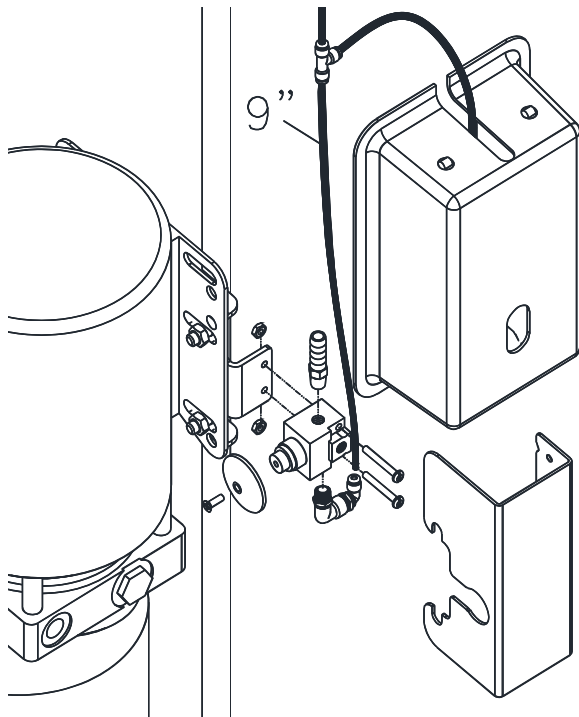

Fig. 16 – Cable Assembly
- 48) Assemble the fittings to the air valve, **Fig. 16**, with the barbed fitting (3/8" hose barb x 1/8NPT) in port marked "1", the elbow (1/8" push-lock x 1/8NPT) in port "2", and nothing in the center port "3" (exhaust). **Note: Barbed fitting in port marked "1" may be substituted with 1/8" NPT fitting suitable for the chosen compressed air supply method.**
- 50) Cut a piece of the 1/8" O.D. air line 9" long and use it to connect the bottom of the Tee fitting to the elbow, **Fig. 16**.
- 51) Cut to fit a piece of the 1/8" O.D. air line and use it to connect from the lock release air cylinder to the center of the push-lock tee fitting on the Power Column, **Fig. 16**.